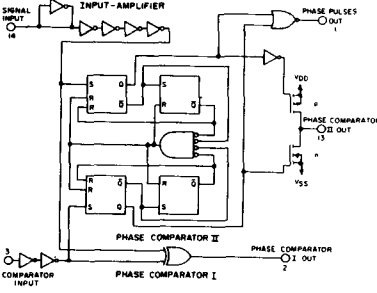
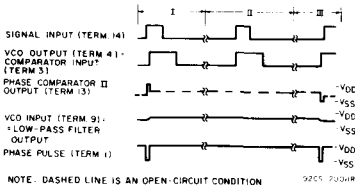
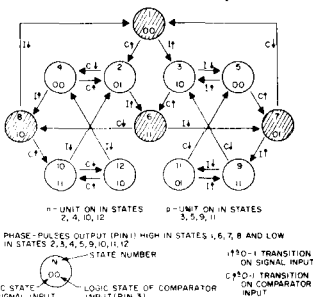

Fig. 3—Schematic of COS/MOS PLL phase-comparator section.
Fig. 6—Typical waveforms for COS/MOS phase-locked loop employing phase-comparator II in locked condition.
Fig. 7—State diagram of phase-comparator II.
Most PLL systems utilize a balanced mixer composed of well-controlled analog amplifiers for the phase-comparator section. Analog amplifiers with well-controlled gain characteristics cannot easily be realized using COS/MOS technology. Hence, the COS/MOS design shown in Fig. 3 employs digital-type phase comparators. Both phase comparators are driven by a common-input amplifier configuration composed of a bias stage and four inverting-amplifier stages. The phase-comparator signal input (terminal 14) can be direct-coupled provided the signal swing is within COS/MOS logic levels [logic 0  $\leq$  30% (VDD-VSS), logic 1  $\geq$  70% (VDD-VSS)]. For smaller input signal swings, the signal must be capacitively coupled to the self-biasing amplifier at the signal input to insure an over-driven digital signal into the phase comparators.
Phase-comparator II is an edge-controlled digital memory network. It consists of four flip-flop stages, control gating, and a three-state output circuit comprising p and n drivers having a common output node as shown in Fig. 3. When the p-MOS or n-MOS drivers are ON, they pull the output up to  $V_{DD}$  or down to  $V_{SS}$ , respectively. This type of phase comparator acts only on the positive edges of the signal- and comparator-input signals. The duty cycles of the signal and comparator inputs are not important since positive transitions control the PLL system utilizing this type of comparator. If the signal-input frequency is higher than the comparator-input frequency, the p-MOS output driver is maintained ON continuously. If the signal-input frequency is lower than the comparator-input frequency, the n-MOS output driver is maintained ON continuously. If the signal- and comparator-input frequencies are the same, but the signal input lags the comparator input in phase, the n-MOS output driver is maintained ON for a time corresponding to the phase difference. If the signal- and comparator-input frequencies are the same, but the signal input leads the comparator input in phase, the p-MOS output driver is maintained ON for time corresponding to the phase difference. Subsequently, the capacitor voltage of the low-pass filter connected to this type of phase comparator is adjusted until the signal and comparator input are equal in both phase and frequency. At this stable operating point, both p- and n-MOS output drivers remain OFF, and thus the phase-comparator output becomes an open circuit and holds the voltage on the capacitor of the low-pass filter constant. Moreover, the signal at the "phase pulses" output is at a high level, and can be used for indicating a locked condition. Thus, for phase-comparator II, no phase difference exists between signal and comparator input over the full VCO frequency range. Moreover, the power dissipation due to the low-pass filter is reduced when this type of phase comparator is used because both the p- and n-MOS output drivers are OFF for most of the signal-input cycle. It should be noted that the PLL lock range for this type of phase comparator is equal to the capture range, independent of the low-pass filter. With no signal present at the signal input, the VCO is adjusted to its lowest frequency for phase-comparator II. Fig. 6 shows typical waveforms for a COS/MOS PLL employing phase-comparator II in a locked condition.
Fig. 7 shows the state diagram for phase-comparator II; each circle represents a state of the comparator. The number at the top inside each circle represents the state of the comparator, while the logic state of the signal and comparator inputs, represented by a 0 or a 1, are given by the left and right numbers, respectively, at the bottom of each circle. The transitions from one state to another result from either a logic change on the signal input (I) or the comparator input (C). A positive transition and a negative transition are shown by an arrow pointing up or down, respectively. The state diagram assumes that only one transition on either the signal input or the comparator input occurs at any instant. States 3, 5, 9, and 11 represent the condition at the output of phase-comparator II when the p-MOS driver is ON, while states 2, 4, 10, and 12 determine the condition when the n-MOS driver is ON. States 1, 6, 7, and 8 represent the condition when the output of phase-comparator II is in its high impedance state; i.e., both p- and n-devices are OFF, and the phase-pulses output (terminal 1) is high. The condition at the phase-pulses output for all other states is low.
As an example of how one may use the state diagram shown in Fig. 7, consider the operation of phase-comparator II in the locked condition shown in Fig. 6. The waveforms shown in Fig. 6 are broken up into three sections: section I corresponds to the condition in which the signal input leads the comparator input in phase, while section II corresponds to a finite phase difference. Section III depicts the condition when the comparator input leads the signal input in phase. These three sections all correspond to a locked condition for the COS/MOS PLL; i.e., both signal- and comparator-input signals are of the same frequency but differ slightly in phase. Assume that both the signal inputs begin in the 0 state, and that phase-comparator II is initially in its high-impedance output condition (state 1), as shown in Figs. 7 and 6, respectively. The signal input makes a positive transition